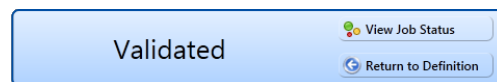

Figure 10-23. Validated Message
- 16 To validate the Bridge definition, click the  **Prevalidate** button. When the validation process completes and the following message displays, click  **View Job Status** to open the *Job Status* window or  **Return to Definition** to open the *Definitions window* (Figure 10-23).